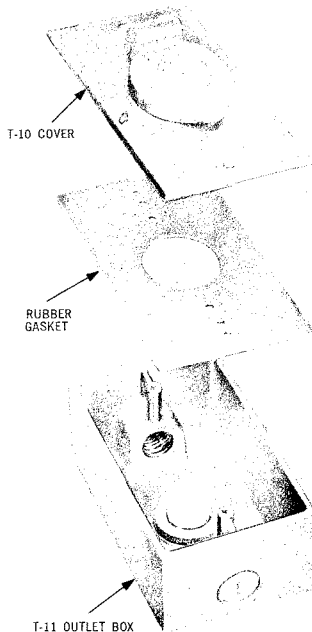

Fig. 11 — T-11 Outlet Box with T-10 Cover
- • Where a flush-type jack is desired in an outdoor location, the weatherproof T-10 telephone outlet cover may be used (see Fig. 11).